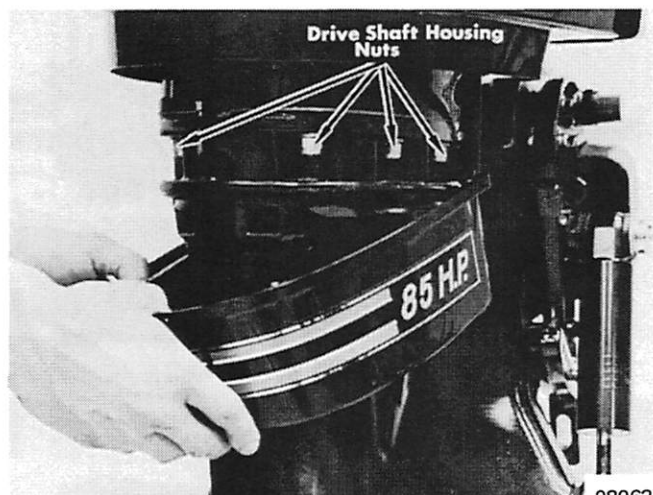

Figure 2. Removing Trim Cover
3. Remove trim cover from drive shaft housing. (Figure 2)